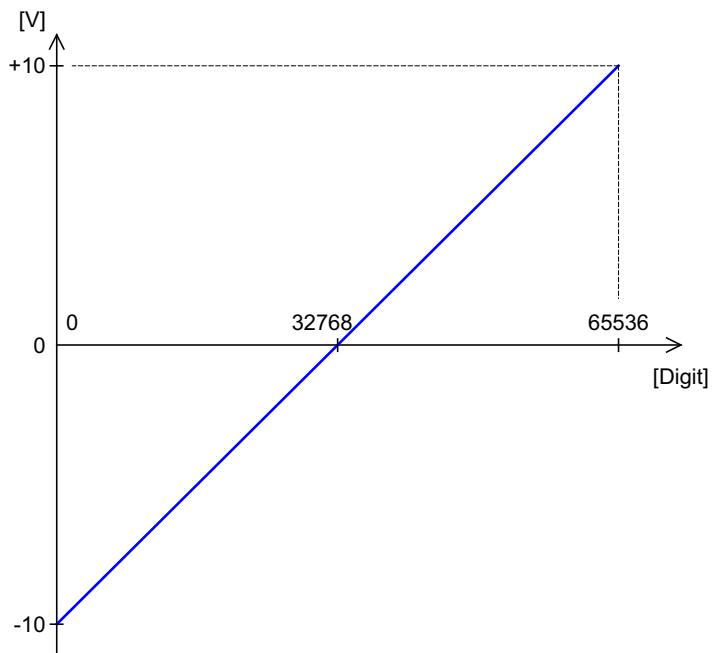

Fig. 8 – Zero offset in the standard setting of bipolar 10 Volts
- The integral non-linearity (INL) defines the maximum deviation from the ideal straight line over the whole input voltage range (see Fig. 8, page 14).